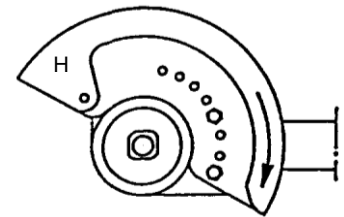

Fig. 7.6 – Setting the protective hood
All machines are equipped with an adjustable protective hood (H), see *Fig. 7.6*.
- 3) Depending on the depth of cut, select the mounting holes of the protective hood, see *Fig. 7.6*.